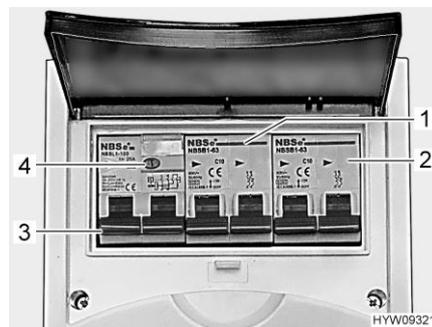

Fig. 101 Safety cutout and FI-switch (230 V fuse box)
A fault current protection switch (FI-switch) (Fig. 101,3) in the fuse box protects the complete vehicle from fault current (30 mA).
The downstream safety cut-out (10 A) (Fig. 101,1) secures the 230 V sockets, the transformer/rectifier, the auxiliary charging unit and the refrigerator. For vehicles with optional equipment, e.g. roof air conditioning unit, the device is protected by an additional safety cut-out (16 A) (Fig. 101,2).
- When the vehicle is connected to the 230 V power supply, press the test button (Fig. 101,4). The fault current protection switch (FI-switch) must be activated.